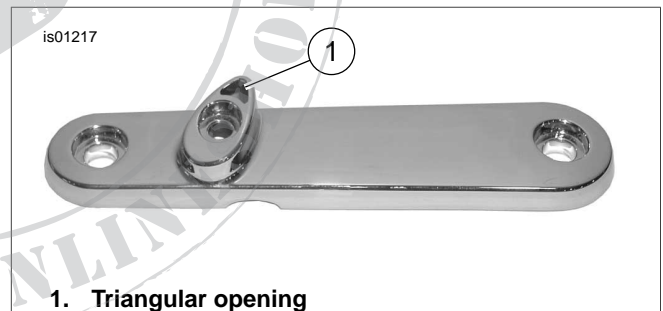

Figure 2. Insertion of Terminals Through Triangular Opening
1. See Figure 2. Insert wire terminals through the triangular opening in the turn signal mounting bracket included in the kit.
3. Apply a small amount of Loctite (243) blue (99642-97) to threads of hex head cap screw.